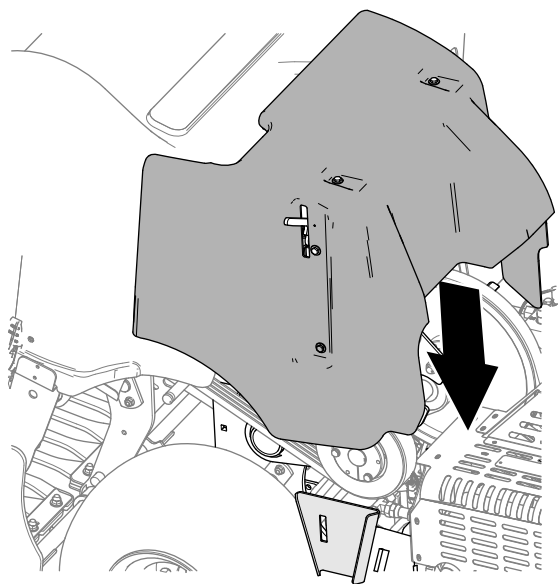

Figure 134
2. Lower the belt cover (Figure 134).